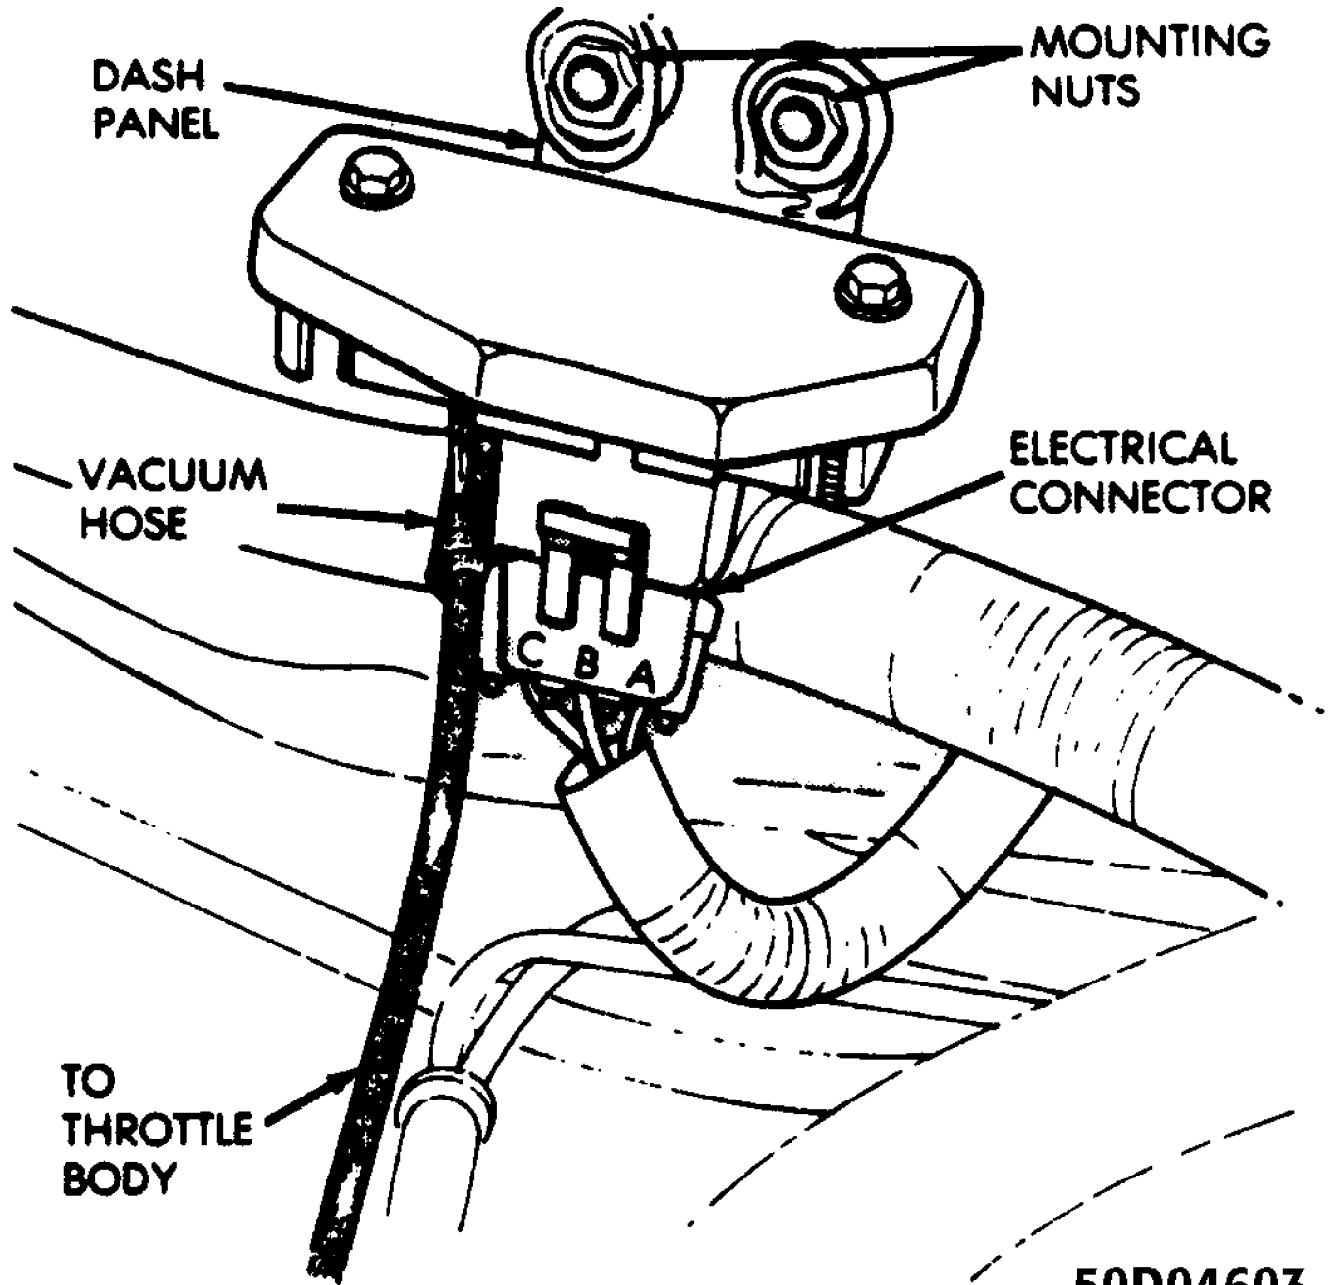

Fig. 19: View of Manifold Absolute Pressure (MAP) Sensor Mounting Nuts & Vacuum Supply Hose
- 1) Disconnect the MAP sensor wire connector. See Fig. 19.